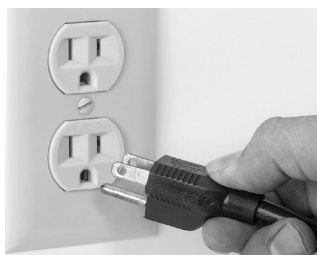
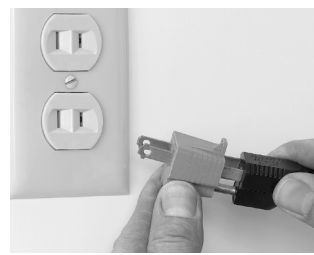

Figure 7-1 Correct
Figure 7-2 Incorrect
**⚠️ THIS MACHINE IS PROVIDED WITH A THREE-PRONG GROUNDING PLUG. THE OUTLET TO WHICH THIS PLUG IS CONNECTED MUST BE PROPERLY GROUNDED. IF THE RECEPTACLE IS NOT THE PROPER GROUNDING TYPE, CONTACT AN ELECTRICIAN. DO NOT UNDER ANY CIRCUMSTANCES CUT OR REMOVE THE THIRD GROUND PRONG FROM THE POWER CORD OR USE ANY ADAPTER PLUG (Figure 7-1 and Figure 7-2).**